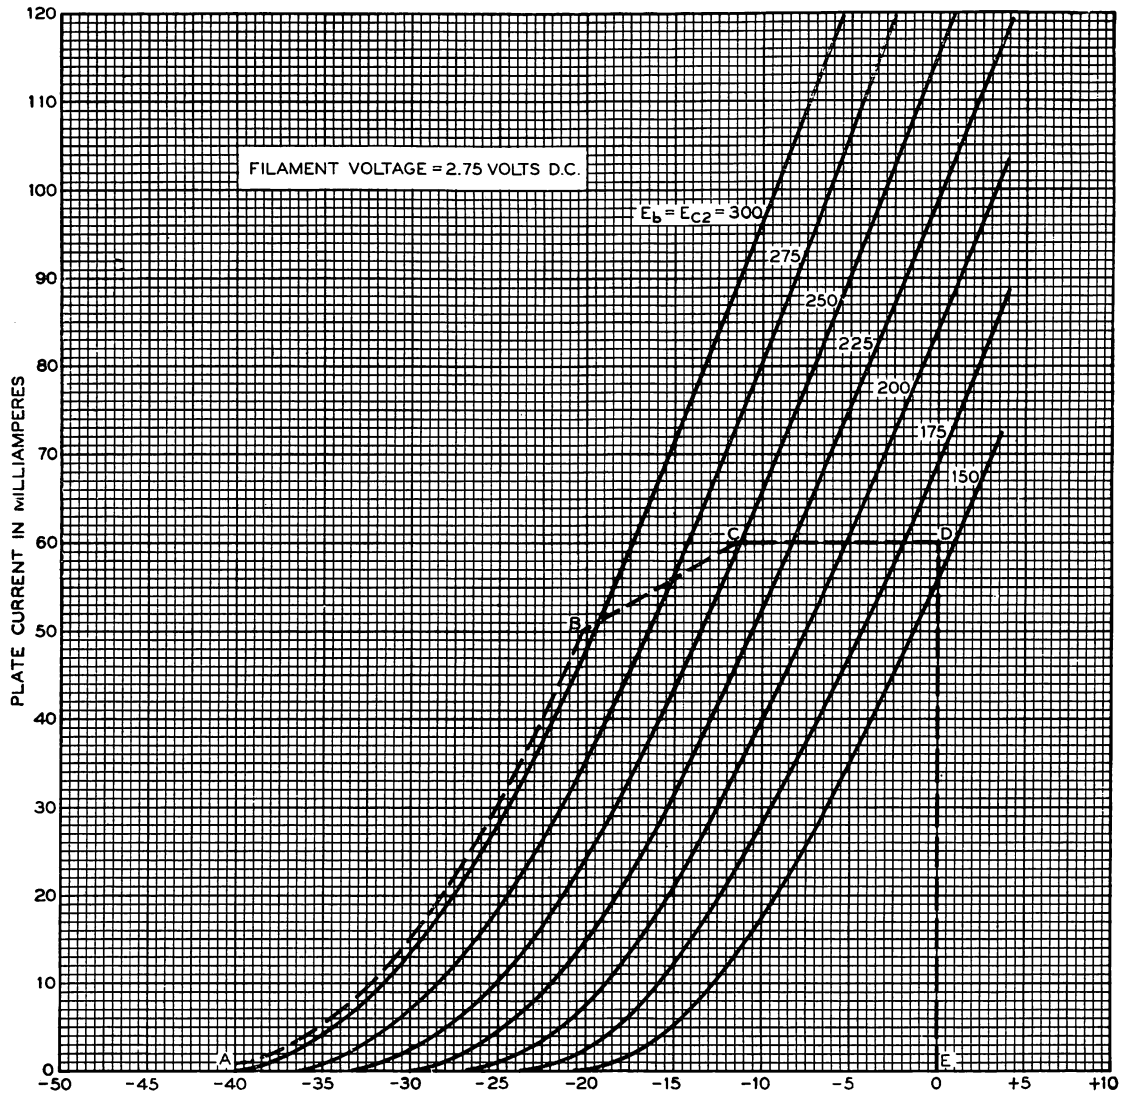
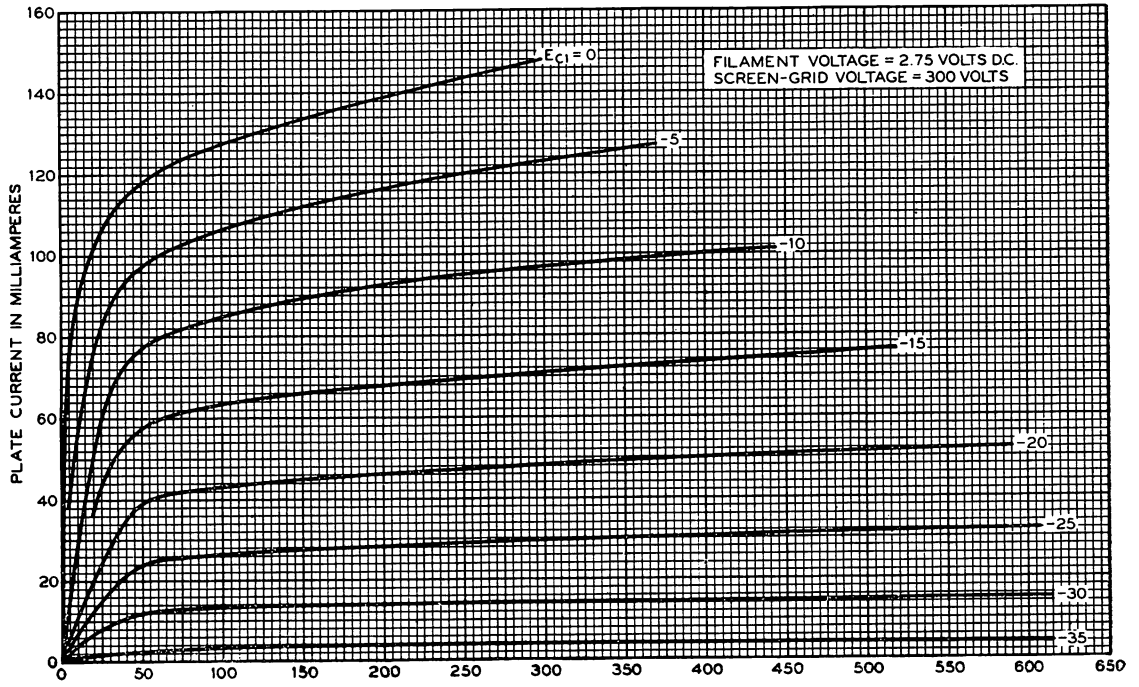
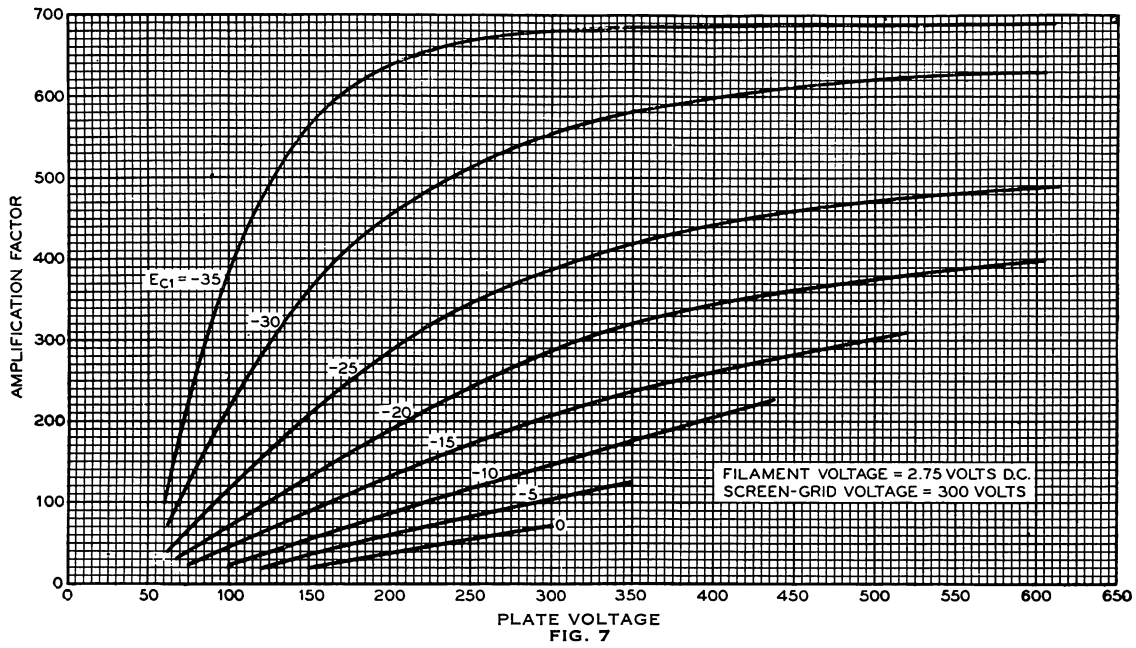

FIG. 3
FIG. 5
FIG. 7
**Characteristics**—Plate current and screen-grid current characteristics for a typical 306A tube are shown in Figures 3 and 4, respectively, as functions of control-grid voltage for several values of screen-grid and plate voltage. The plate voltage for these characteristics is equal to the screen-grid voltage. Plate current and screen-grid current characteristics are shown as functions of plate voltage in Figures 5 and 6, respectively, for a screen-grid voltage of 300 volts. Corresponding amplification factor, plate resistance, and transconductance characteristics are shown in Figures 7, 8, and 9, respectively.
**Class A—**Audio-Frequency Amplifier or Modulator—Permissible operating screen-grid and control-grid voltages for audio-frequency amplifier applications are included within the area, ABCDE, in Figure 3. Amplification factor, plate resistance, transconductance, and performance data are given in the table below for a number of typical operating conditions represented by selected points within this area. Less severe operating conditions should be selected in preference to maximum operating conditions wherever possible. The life of the tube at maximum conditions may be shorter than at less severe conditions.